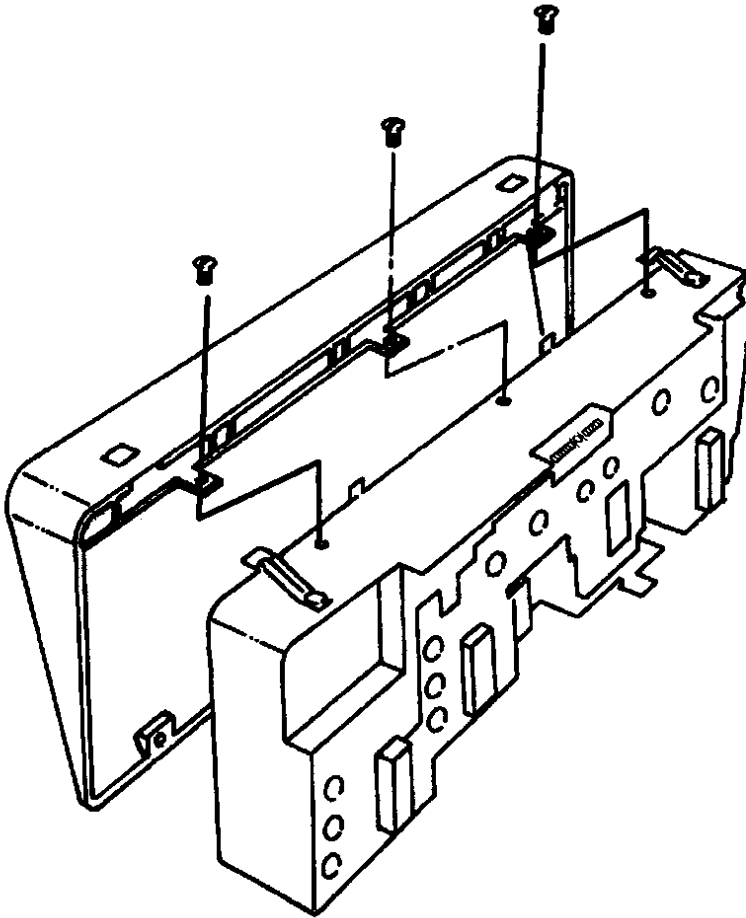

Figure 18 Remove Bezel Screws Fastening Bezel to Cluster Housing
1. With the cluster released from the dash panel (refer to INSTRUMENT CLUSTER, Remove), remove the five (5) bezel screws that fasten the bezel to the cluster housing (Figure 18). Place the instrument cluster face up on a clean, horizontal surface to prevent loss of unused gauge covers, gauges, etc.